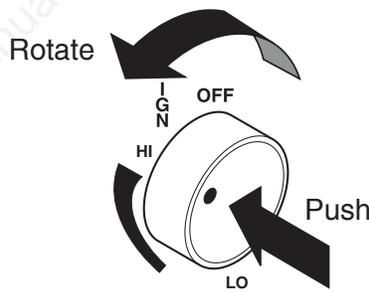

Figure 42 - HIGH Position
10. Push in control knob and turn counterclockwise  to the HIGH setting. At this location the control knob will pop out when positioned correctly. The knob can now be positioned at any position between HIGH and LOW. See *Figures 42 and 43*.